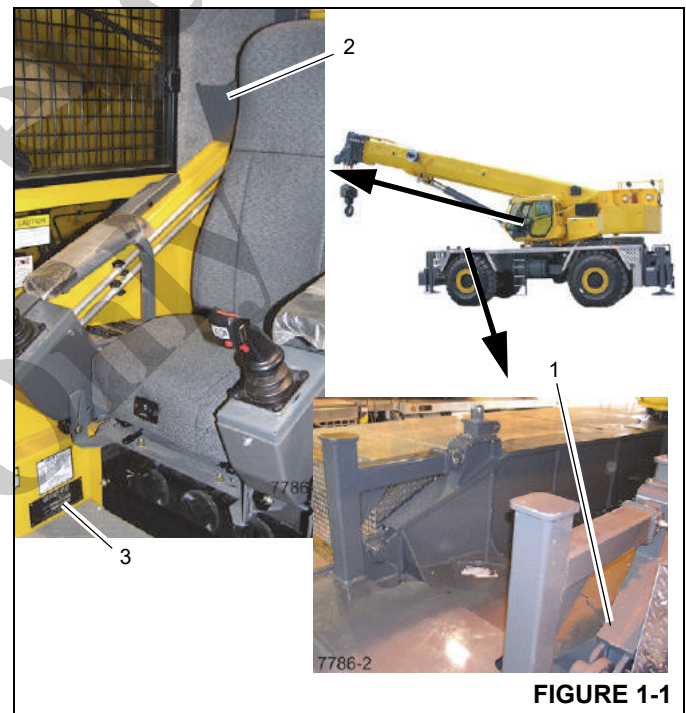

FIGURE 1-1
See Figure 1-1 for your crane's serial number location: stamped on left side of front frame (1), on the manual in the cab (2), and inside the cab in front of the seat on the right side (3).